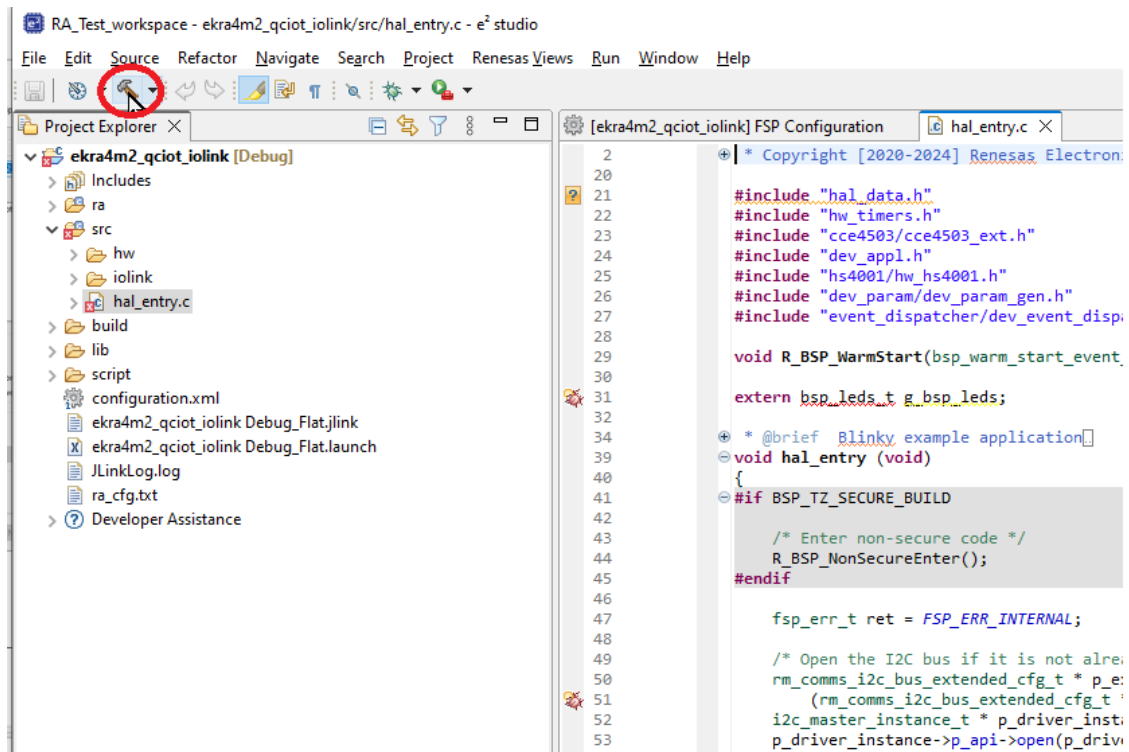

Figure 16. Build the Sample Project
8. After successfully importing the project, build it by pressing the Hammer icon button (see Figure 16).